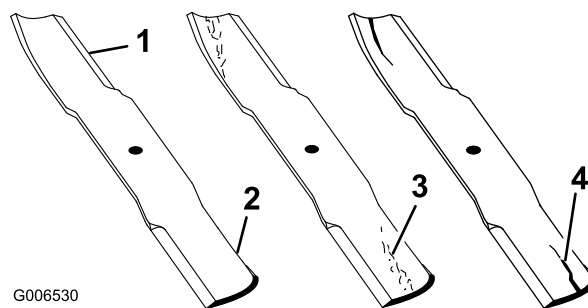

Figure 44
1. Inspect the cutting edges (Figure 44). If the edges are not sharp or have nicks, remove and sharpen the blades; refer to Sharpening the Blades.
2. Inspect the blades, especially the curved area (Figure 44). If you notice any damage, wear, or a slot forming in this area (item 3 in Figure 44), immediately install a new blade.